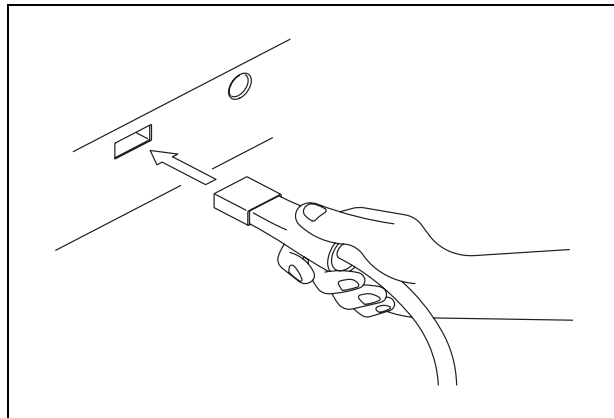

Figure 3.4
3. Fully insert the unit side plug of the P cord into the patient plate connector on the front panel of the electrosurgical unit (see Figure 3.4).